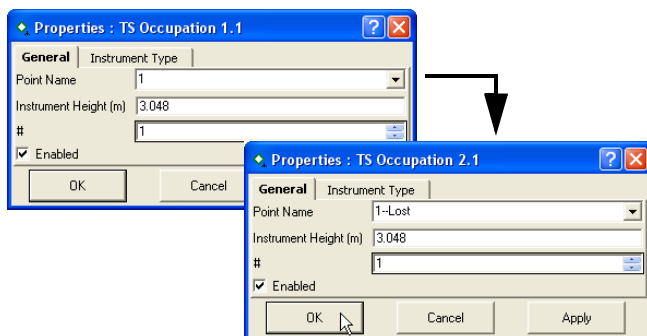

Figure 5-15. Edit Point Name
2. On the **Properties** dialog box and the **General** tab, edit the point name and click **OK** to save the information (Figure 5-15).